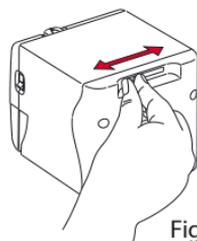

Fig.1
1. Select the desired pencil point sharpness by sliding the adjuster at the back of the machine. (Fig.1)